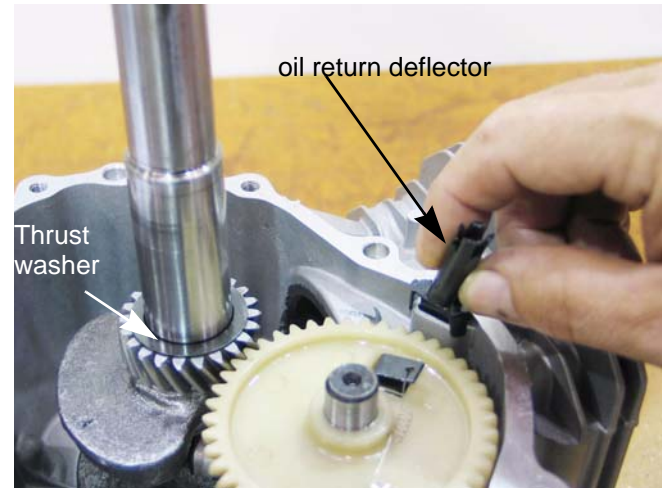

Figure 10.28
8. If removed, install the oil return deflector. See Figure 10.28.
9. Place the thrust washer on the crank shaft. See Figure 10.28.